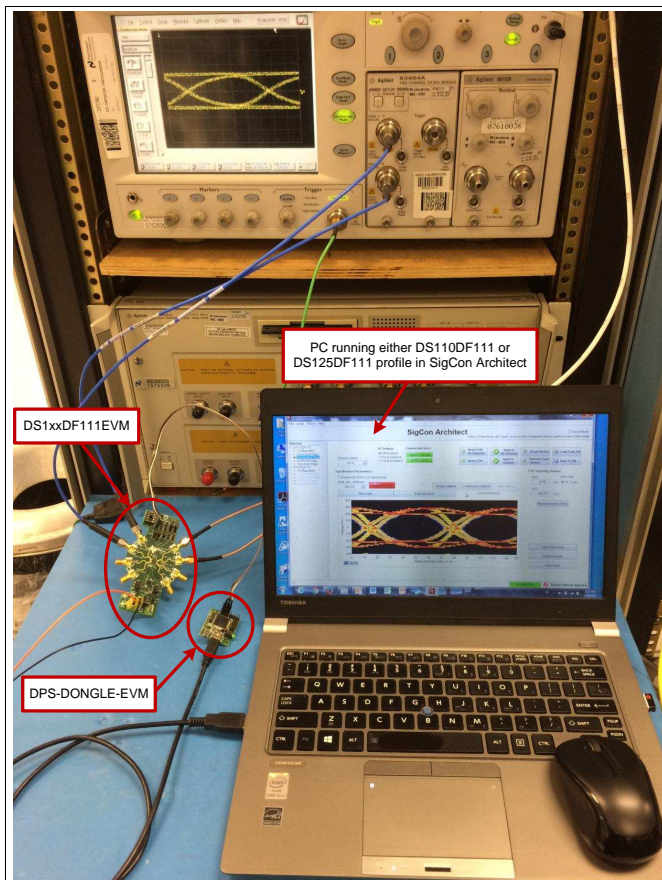
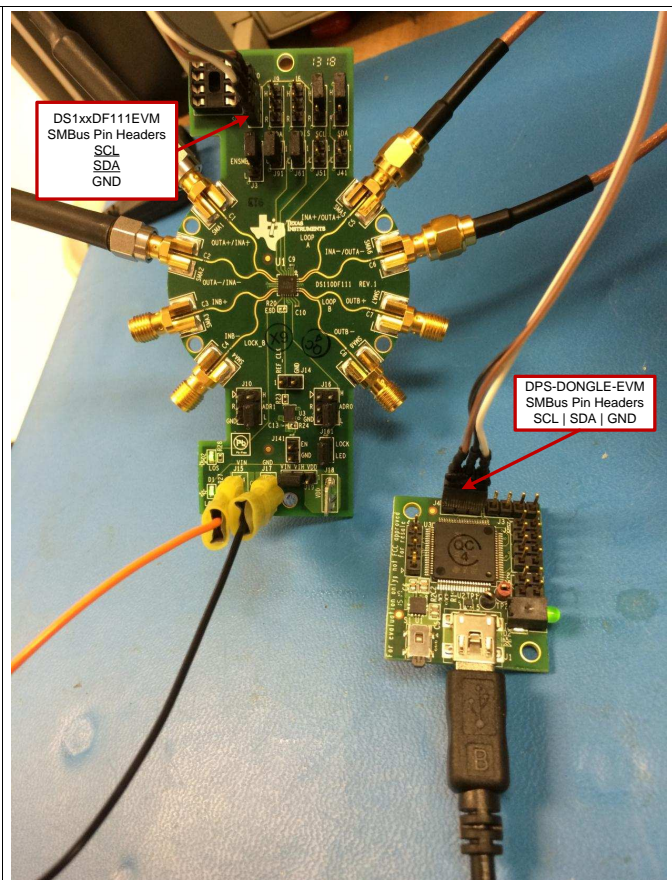

Figure 3. DS1xxDF111EVM Slave Mode Full Setup
Figure 4. DS1xxDF111EVM Slave Mode Close-Up
7. The DS125DF111's control and signal integrity settings are programmable with SigCon Architect, a GUI which supports full register access through SMBus communication. An example of a DS1xxDF111EVM connected to a PC through a DPS-DONGLE-EVM is shown in Figure 3 and Figure 4. The possible SMBus address settings are shown in Table 5. For more information about SigCon Architect, reference the "SigCon Architect: Installation and Starter's Guide" (SNLU178).